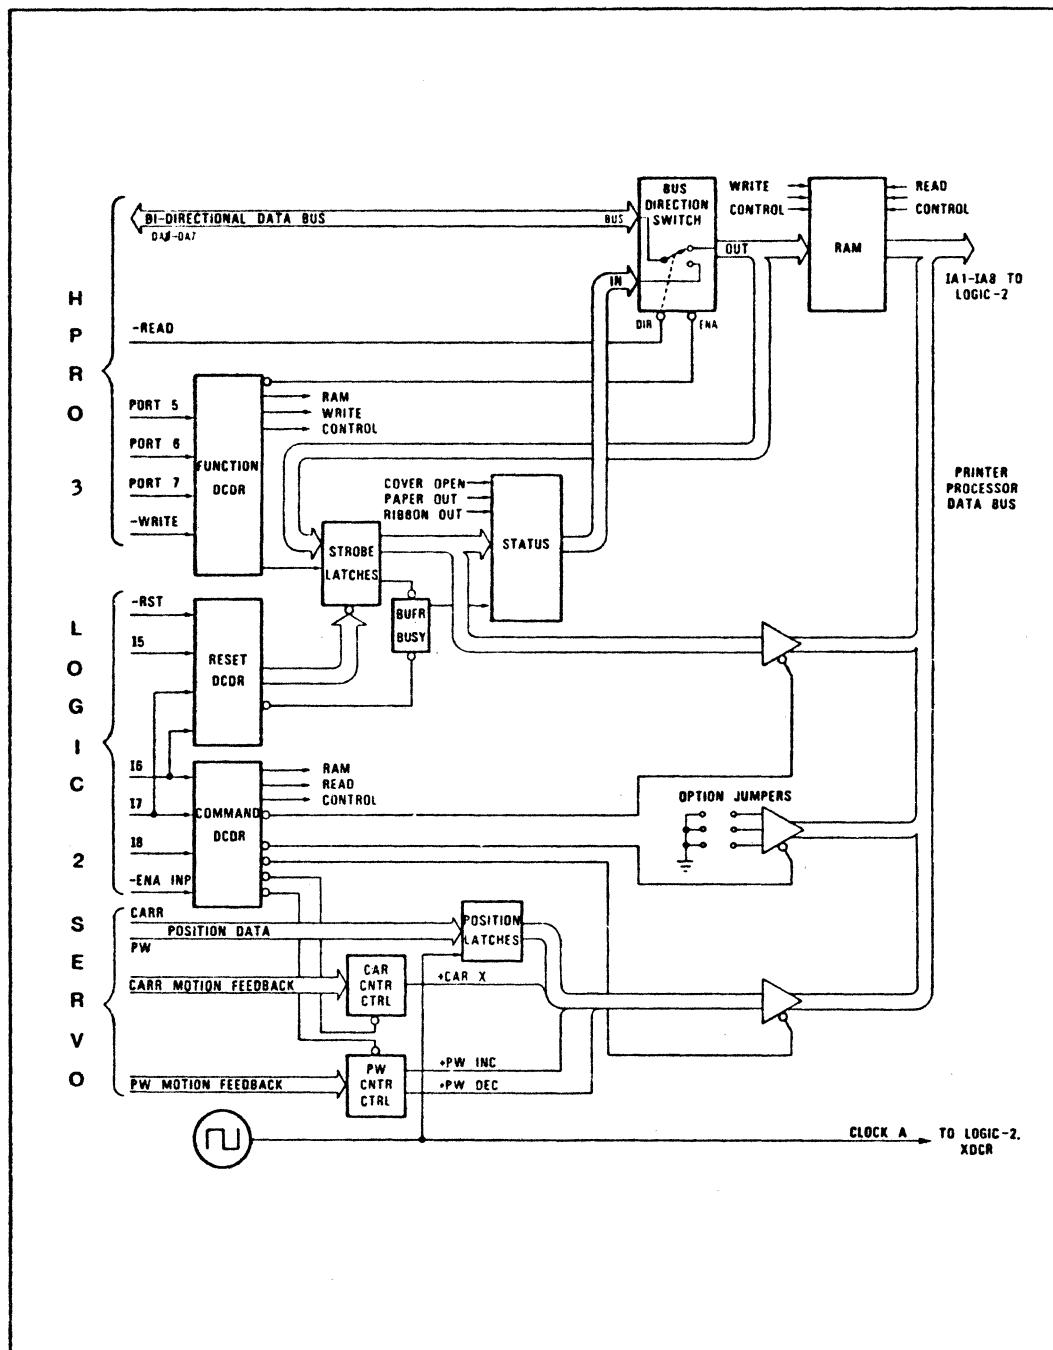

Figure 2-8. Block Diagram, 8080 INTERFACE Board
The transfer of a printer command from the terminal microprocessor to the printer microprocessor involves the following steps (refer to Figure 2-8):
2.3.1.1.1 WRITE to Ports 6 and 7. When a write command is executed to either port 6 or 7, the data appears on the bi-directional data bus simultaneously with the development of the -WRITE signal and -PORT 6 or -PORT 7. The FUNCTION DCDR block in Figure 2-8 contains random logic which both enables (turns on) the BUS DIRECTION SWITCH, and addresses the RAM according to the I/O port selected. Since -READ is high at this time, the BUS DIRECTION switch allows data to flow from its "bus" connection to its output, from where it is written into the RAM.